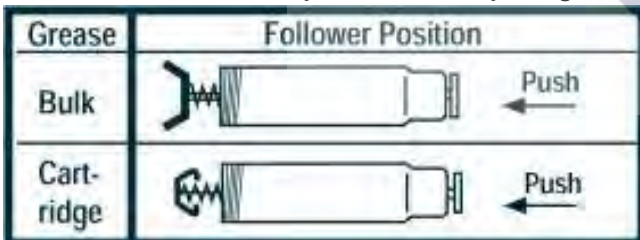

Fig 1
c) Check valve (10) ball seat damaged or dirty.	1) Remove check valve (10). 2) Clean and inspect all components. Replace as Required. Important - use Loctite (or similar) thread sealant on check valve threads.
d) Body outlet (6) ball seat dirty or damaged	Remove spring (3) and ball (4). Disassemble, clean, and inspect all components. Replace as required.
e) Worn or damaged Piston O-ring.	Remove handle (20), pull out plunger (13) and replace O-ring (12).
2) Grease leaks past follower	a) Follower (15) damaged or perished.	Replace follower (15).
c) Follower in wrong position for bulk Grease.	If using bulk grease, Follower must be forward (Fig 1)
Remarque : Sélectionner la position de remplissage correcte (voir Fig. 1)